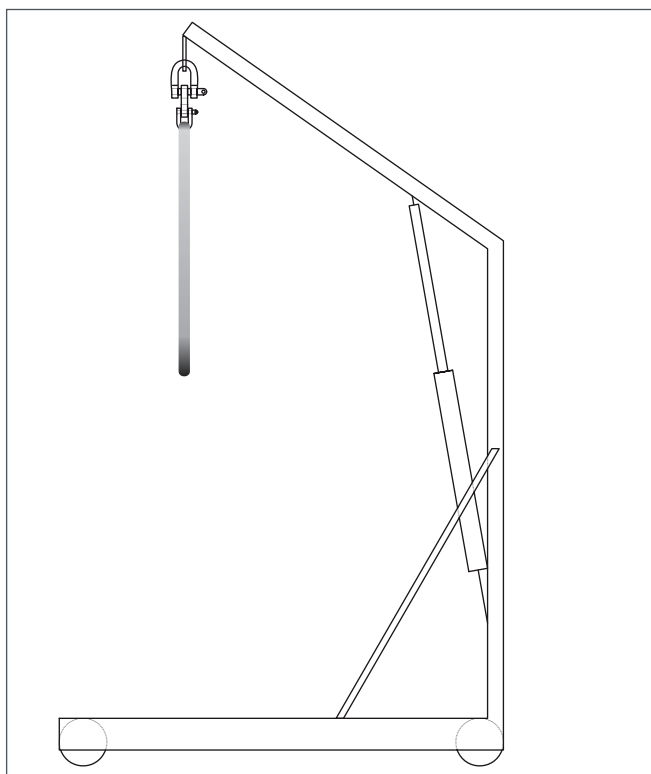

Figure 66
3. Pull fuse (Figure 66, item 3) carefully out of the clamping contact.